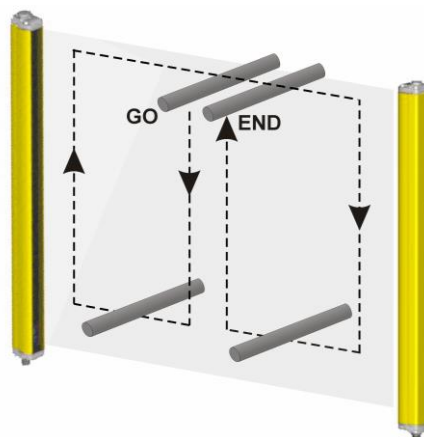

Figure 17 – Scheme for checking the function
- The AOPD remains in OSSD OFF state () during beam interruption along the entire detection zone, using the suitable “Test piece” and following the Figure 17 scheme. The suitable “Test Piece” has one dimension identical with the resolution of the AOPD, a cylinder with a 14 mm diameter for a light curtain with a 14 mm resolution for example.